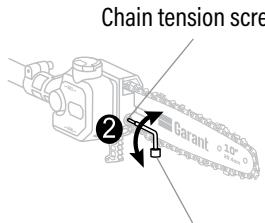

Fig. 16A
**NOTE:** If there is difficulty in removing the bar and chain from the mounting surface, place the pole saw upright, with one hand supporting the bar, and loosen the chain-tensioning screw counterclockwise with the other hand (Fig. 16A). Then, remove the bar with the chain.
2. Loosen the sprocket cover screw (Fig. 16A).